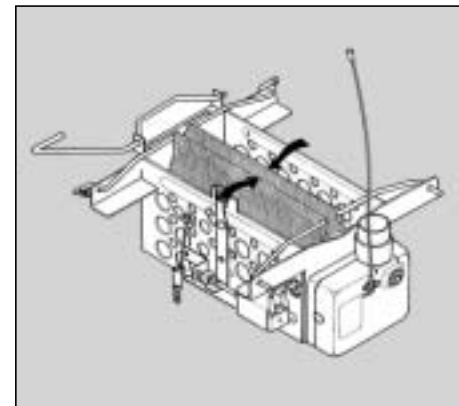

Figure 6. Closing the launcher.
- 1) Close the bird cradle inside the launcher box and hold it in place (Figure 6).